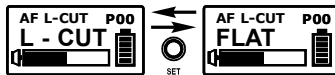

Fig. 9
6. AF L-CUT: Setup and Change of Low Frequency Cut Off, Fig. 9.
- (A) Press MODE and stop on the AF L-CUT function; the LCD screen will start flashing in the current set state and is ready for change.
- (B) Press the SET button while the display is flashing to change to L- CUT or FLAT as desired.
- (C) The screen will stop flashing and remain in the set state if not operated within 30 seconds.
- (D) When the AF L-CUT function is LOW CUT, the frequency response below 100Hz will decrease about 3dB with a slope of -6dB/Octave.